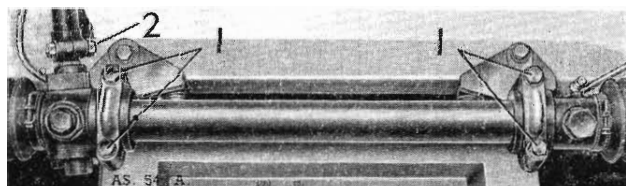
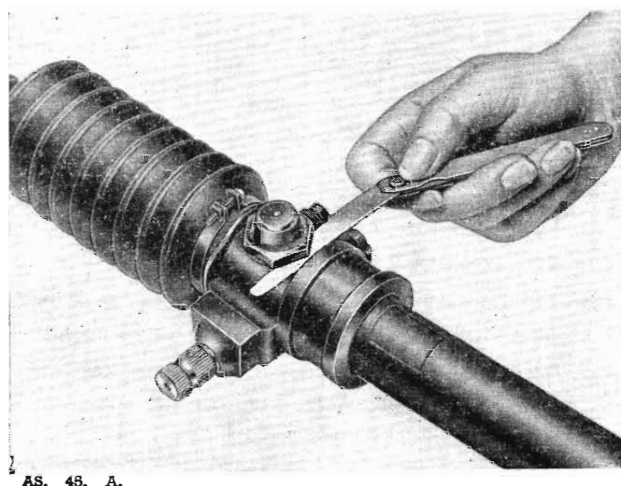

Fig. J.4. Showing the mounting points '1' of the steering rack and '2' being the steering column clamp bolt.
Fig. J.5. Checking the adjustment of the damper cap.
- (d) A feeler gauge is then used to measure the clearance between the hexagon of the damper cap and its seating in the rack housing (Fig. J.5). To this figure must be added a clearance of .002 to .005 in. (.05 to .127 mm.) to arrive at the correct thickness of shims which must be placed beneath the damper cap. The shims are available in thicknesses of .003 and .010 in. (.076 and 0.254 mm.).
- (3) Excessive end play of the pinion is rectified by the fitting of shims of pre-determined thicknesses and is performed in the following manner:
- (b) Unscrew the steering column clamp bolt, 2 Fig. J.4, and withdraw the column from the pinion and shaft splines.
- (4) The ball joints linking the tie rods to the rack